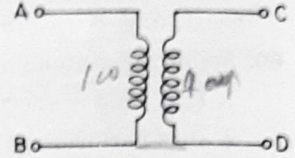

Fig. C.47.
71. Two windings of a transformer are indicated by terminals AB and CD as shown in Fig. C.47. When a voltage of 100 V is applied across AB with BD short-circuited, a voltage of 200 V appears across AC. The turns ratio from CD to AB is